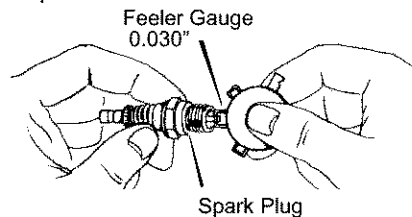

Figure 40
2. Be sure **spark plug** is clean and free of foreign material. Check electrodes gap with a wire **feeler gauge** and reset gap to 0.030" if necessary. See Figure 40.